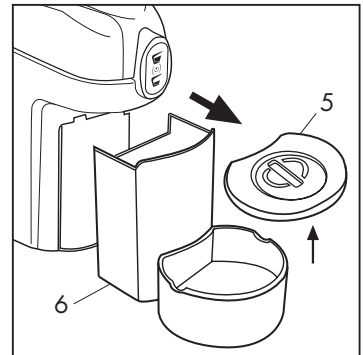
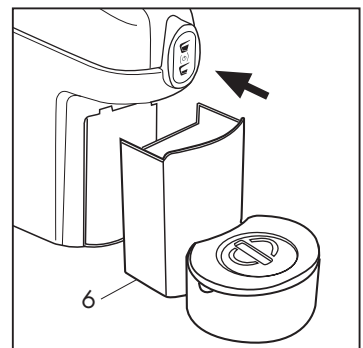

Fig. 10
Fig. 11
Empty the capsule container regularly to ensure that they do not get stuck. To perform this operation, take out the drip tray (6) and remove the grid (5) **(Fig. 10)** Empty the container, wash and dry the components, then refit the drip tray (6) and insert it in its seat **(Fig. 11)**